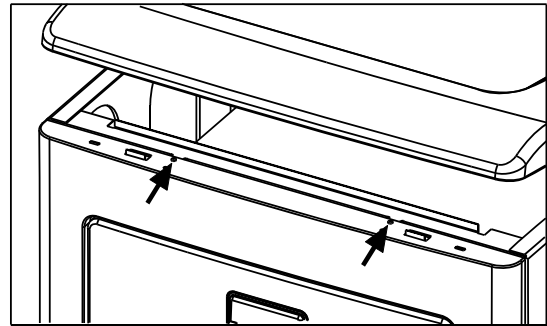

Figure 3
- Prop open the top cover and remove the two screws securing the front panel. (Figure 3)